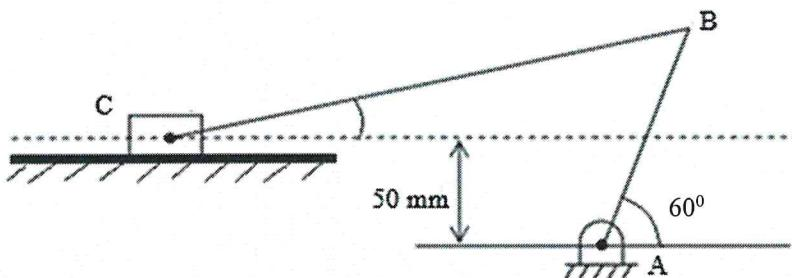

Figure3(b) / Rajah 3(b)
- CLO1 (b) Consider the slider crank mechanism given in Figure 3(b). Let AB = 200 mm, BC = 520 mm and offset distance = 50 mm. The crank AB rotates clockwise at a constant velocity of 2000 rpm.